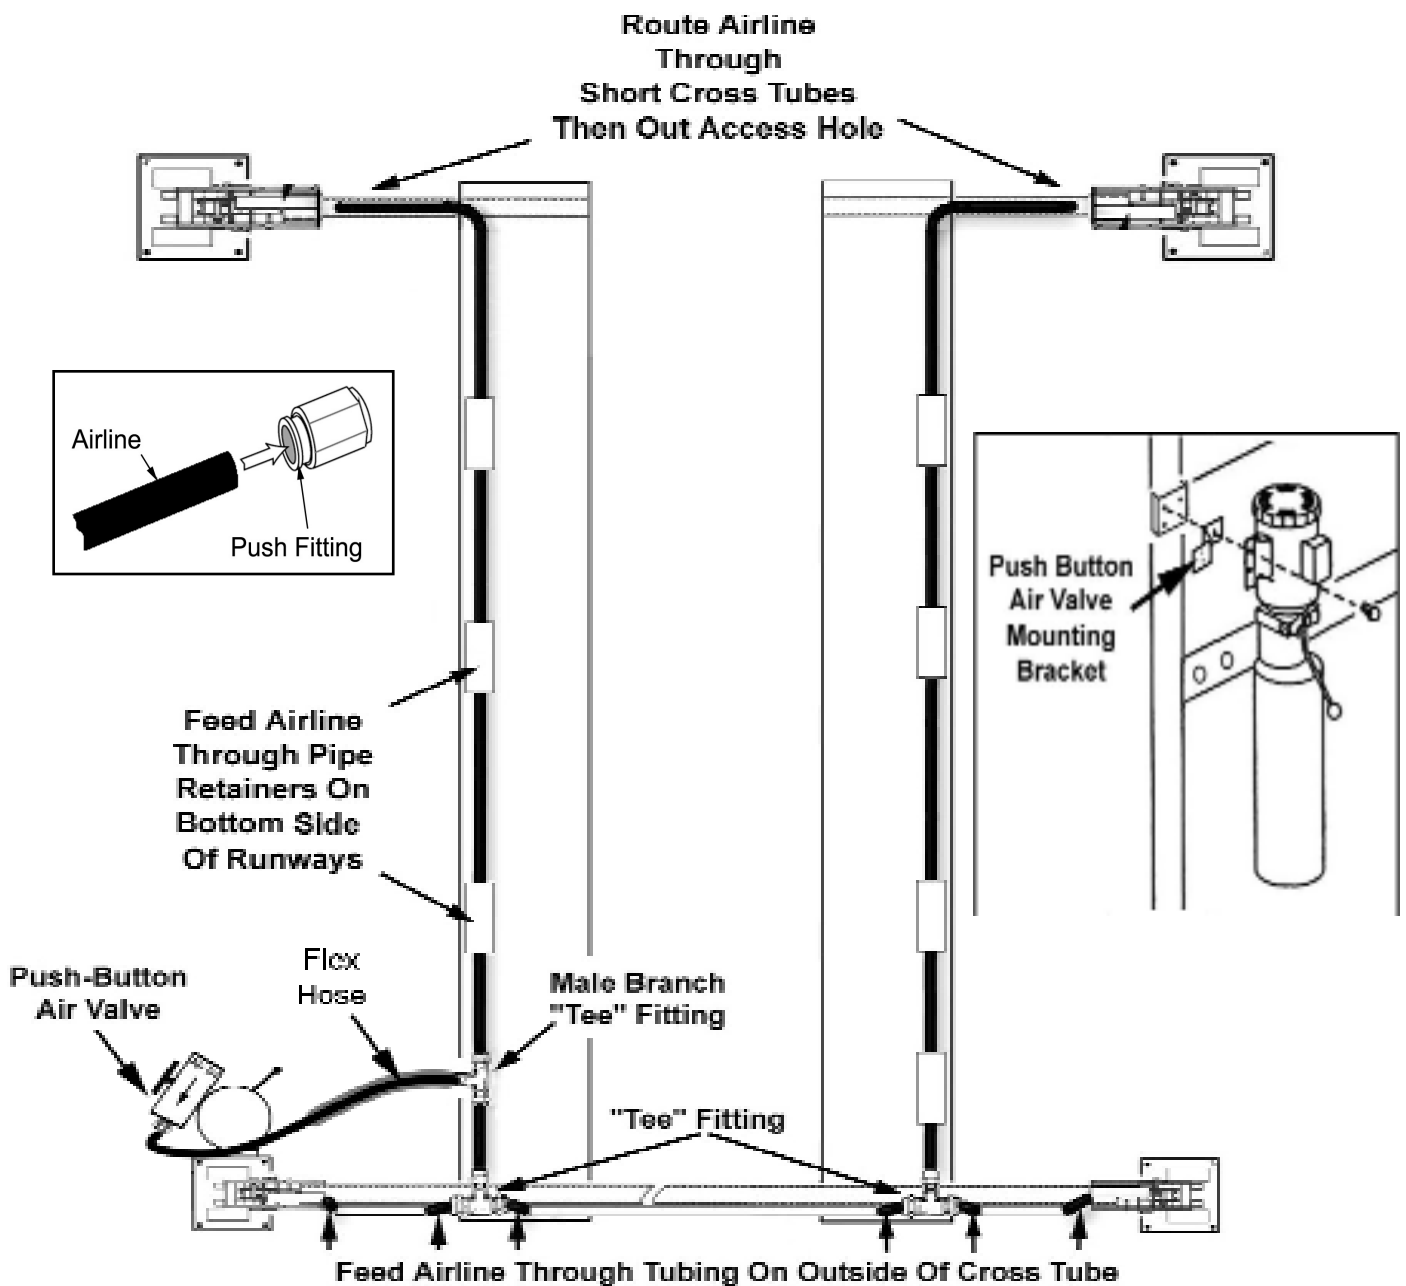

Fig. 11.1
**AIR PRESSURE SHOULD BE REGULATED TO 125 PSI MAX.** (See Fig. 11.1)